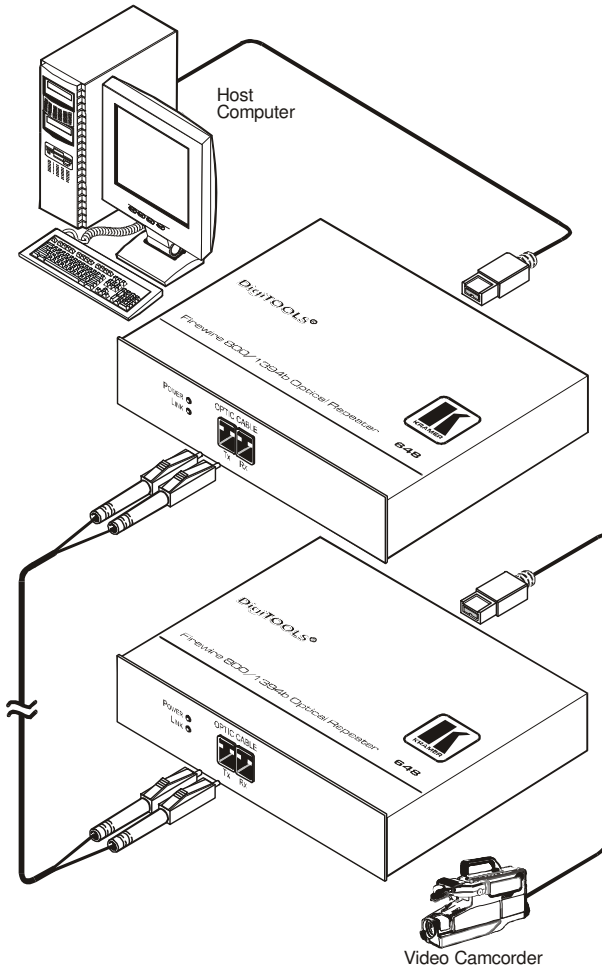

Figure 3: Connecting the 648 FireWire 800/1394b Optical Repeater to a Peripheral Device
To set up the **648 FireWire 800/1394b Optical Repeater** units, as the example in Figure 3 illustrates, do the following²:
6. For the **648** units that did not power up, connect the 12V DC power adapters to the power socket and connect the adapters to the mains electricity (not shown on Figure 3).